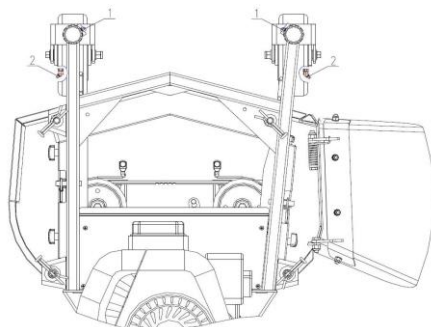

Figure 7
- Stop the engine, wait for all moving parts to stop and remove the key. (See Figure 7).